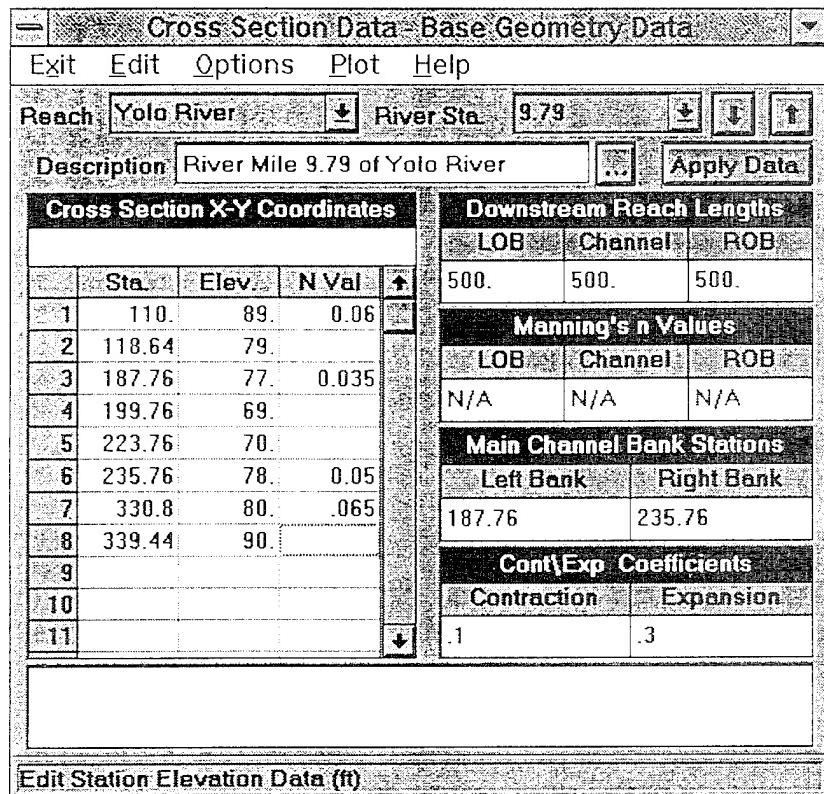

Figure 6.8 Cross section with horizontal variation of n values selected
**Horizontal Variation in n Values.** This option allows the user to enter more than three Manning's n values for the current cross section. When this option is selected, an additional column for n values is added to the cross section coordinates table as shown in Figure 6.8. A Manning's n value must be placed in the first row of the table. This n value is good for all cross section stations until a new n value shows up in the table. The user does not have to enter an n value for every station, only at the locations where the n value is changing.